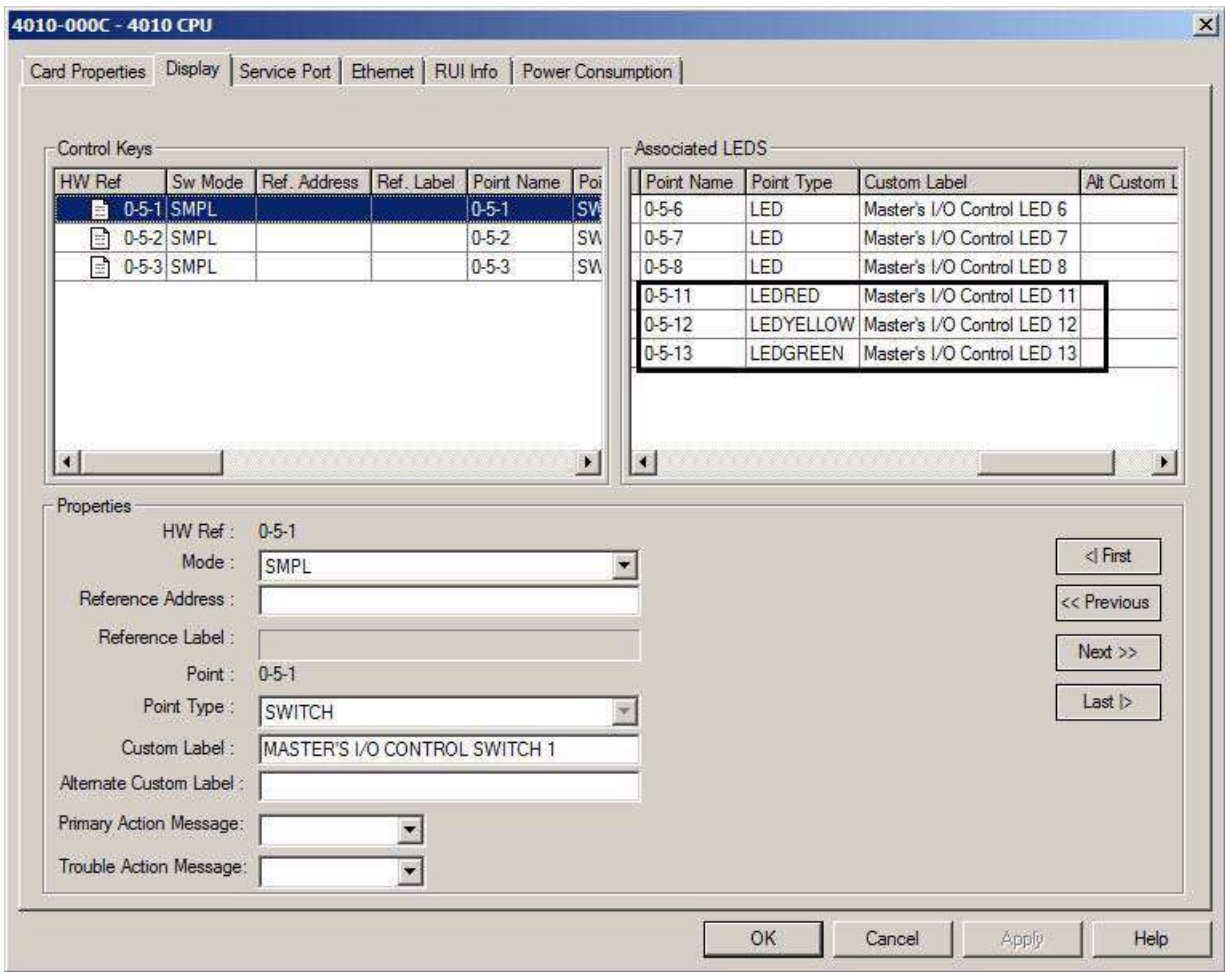

Figure A-3. The Display tab: LEDs
- 1. Select one of the multicolor LEDs (0-5-11, 0-5-12, or 0-5-13) to program (Figure A-3).